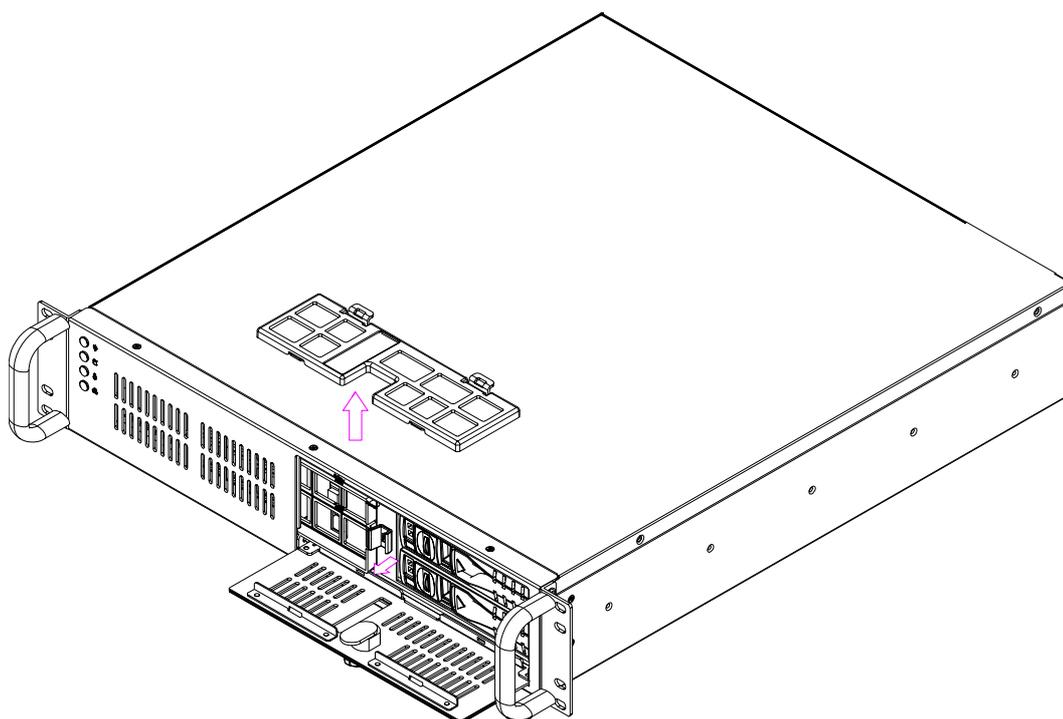

Figure 3.8 Cleaning the filters
3. To pull out the fan filter, push the hook and slide it to the right. (see Figure 3.8)